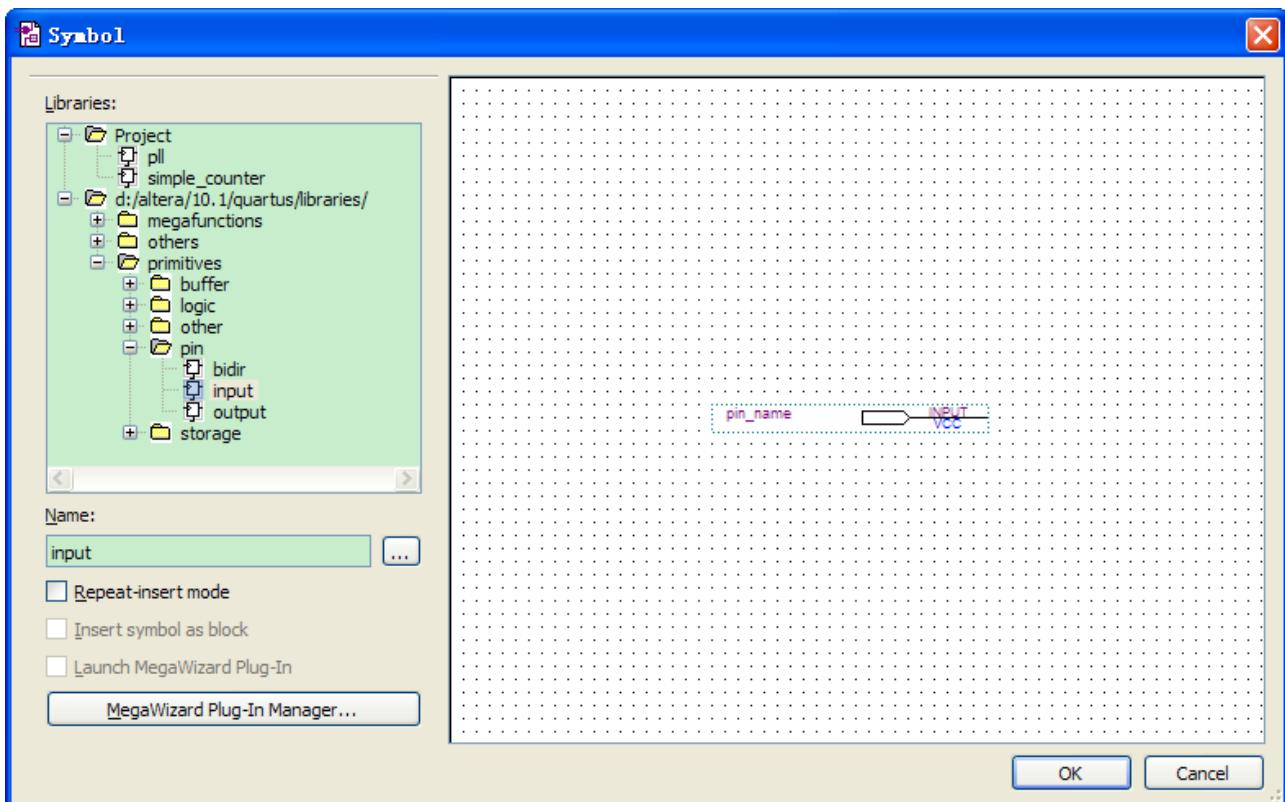

Figure 6-28 Input pin symbol
2. Under Libraries, select quartus/libraries > primitives > pin >input. See Figure 6-28